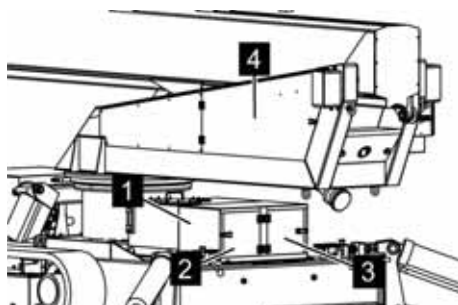

Fig. 120: Shuttle valves door
2. ➔ Open the doors (Fig. 120/2 and 3) or completely remove the cover (Fig. 120/1).
3. ➔ Open the door (Fig. 120/4).